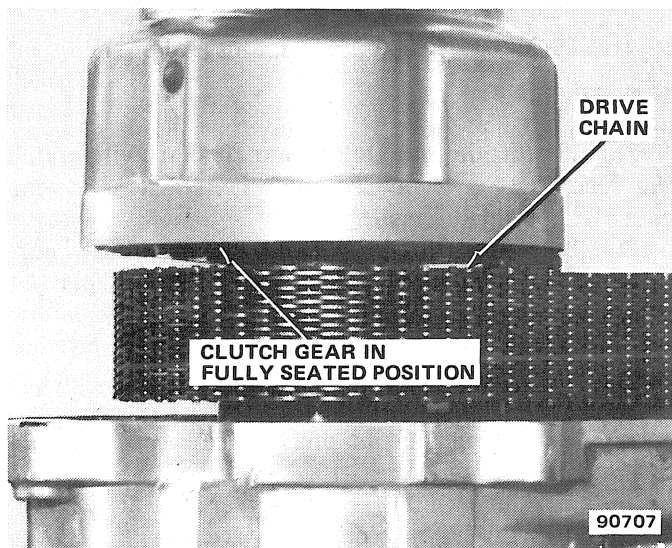

Fig. 2D-67 Seating Viscous Coupling on Clutch Gear
(38) Install rear output shaft in viscous coupling. Be sure shaft is fully seated.
(39) Install assembled viscous coupling and rear output shaft on mainshaft (fig. 2D-48). Align mainshaft pilot hub with pilot bearing bore in rear output shaft and carefully lower assembly onto mainshaft. Take care to avoid displacing pilot roller bearings during installation.
(40) Align clutch gear teeth with viscous coupling teeth and seat coupling fully onto clutch gear (fig. 2D-67).